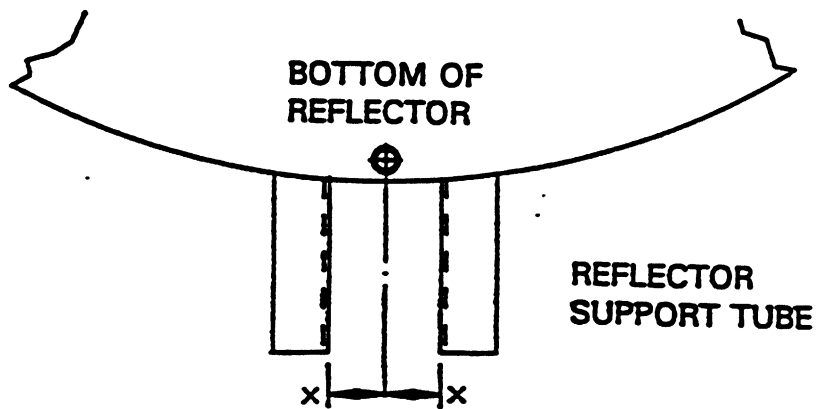

FIGURE 3.0-2
2. Before attaching the feed support tube, sight the bottom of the reflector with the reflector support tube, to be sure the reflector is centered. If not, move the reflector left or right on the cross arms. Reference Figure 3.0-2.